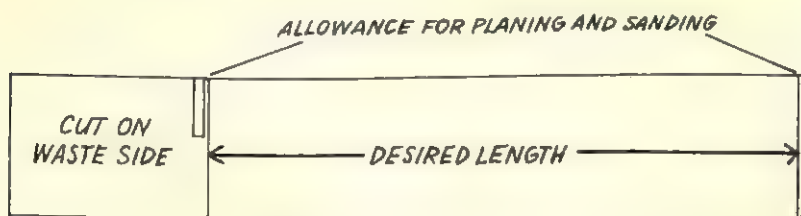

Figure 25
7. Mark out the cutting-lines on the piece of wood. Figure 25 will help you: